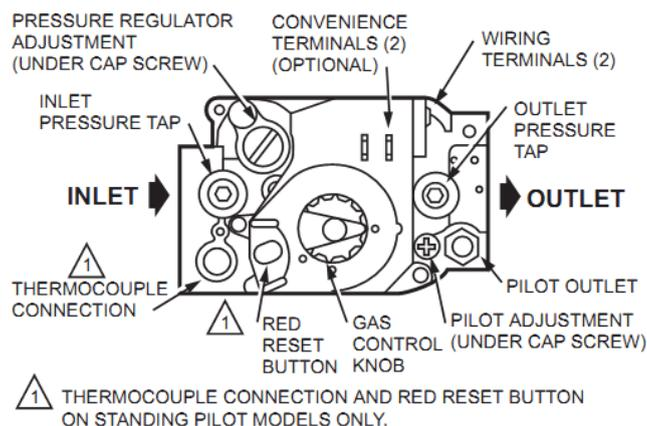

Fig. 1 Top View
2. Remove metal cap screw and plastic pressure adjustment screw. Refer to Fig. 1.
2. Remove outlet pressure tap plug from gas control and connect pressure gauge. Refer to Fig. 1.